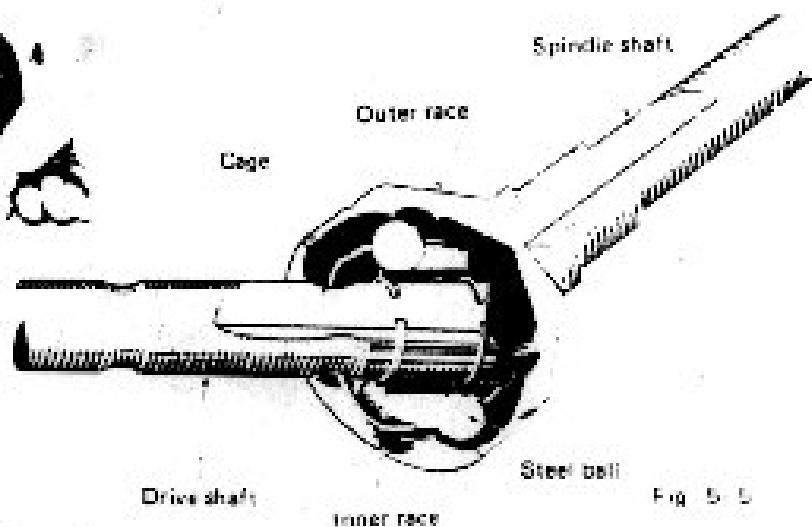

Fig. 5-5
The joint consists principally of the outer race, inner race, cage and balls as illustrated in the Fig. 5-5. When the joint angle varies, the inner race moves just as the ball bearing ensuring smooth transmission of the drive torque. When the joint rotates, the six (6) balls become locked in position, carrying the drive torque from the drive shaft, inner race and balls to the outer race.